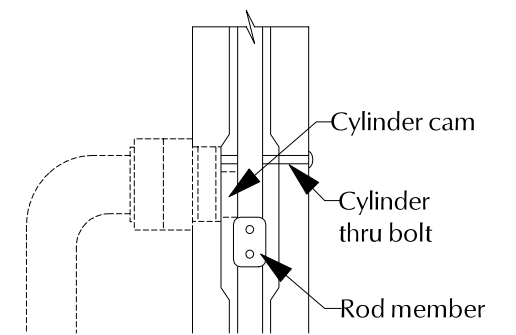

Figure 4. Adjust rod member to contact cylinder cam.
- E. Adjust rod member to contact cylinder cam (see Figure 4, other side).